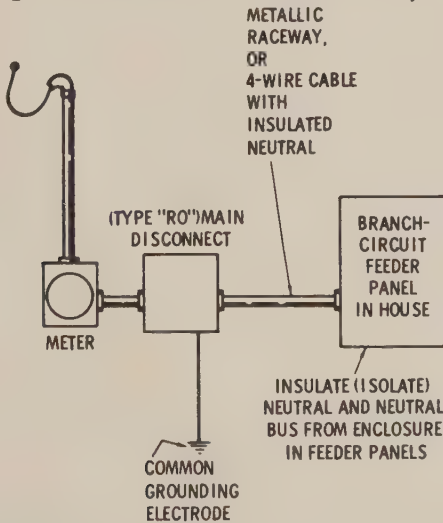

Fig. 19. Proper installation of a raintight disconnect on the outside of a house.
A raintight main disconnect (RO) may be installed on the outside of the house to serve as the main disconnect, with a feeder circuit from this main to a branch-circuit panel in the house. If this is the case, the conductors from the main to the branch-circuit panel are feeders and shall have an ampacity equal to or larger than the main disconnect. Also, an equipment ground conductor from the main to the branch circuit is required, with the neutral insulated from the enclosure of the branch-circuit panel. This equipment grounding conductor may be a metal raceway (conduit or EMT), or if the feeder is a cable, this cable shall have an insulated neutral, two phase conductors, and an equipment grounding conductor. See Fig. 19.
There is nothing in the Code prohibiting the installation of a branch-circuit panel with a main disconnect or a split-bus panel on the outside of the residence, provided a rain-tight enclosure is used (RO). See Figs. 19 and 20.